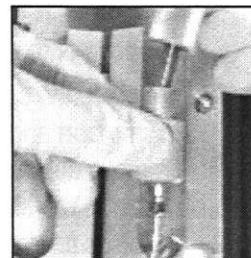

Figure 3-4: Inserting Cartridge into Holder
3. Remove the end caps from a new cartridge. Position the cartridge with the arrow pointing in the direction of flow (bottom to top), with the labeling on its side. Push the cartridge firmly into one end of the holder until it is fully seated; be careful not to bend the inlet line while inserting the cartridge. Place the remaining end of the holder over the cartridge. See Figure 3-4. Secure the holder, keeping one end stationary while turning the other end clockwise until finger-tight.